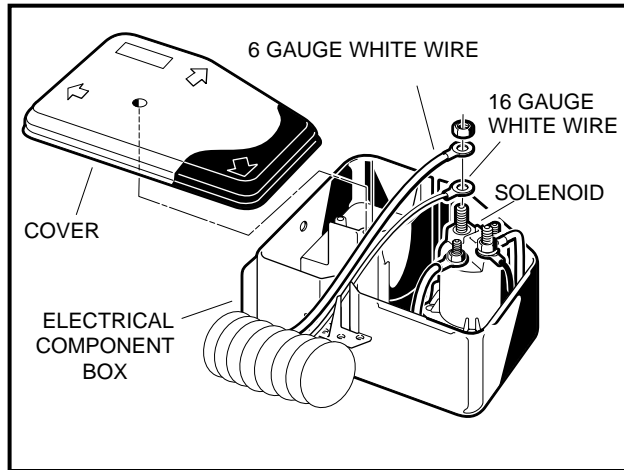

Figure 11-29 Remove Solenoid Wires
- Remove the 6 and 12 gauge white wires from the large post of the solenoid. Do not allow the wires to touch the frame or other components of the vehicle (**Figure 11-29, Page 11-27**).